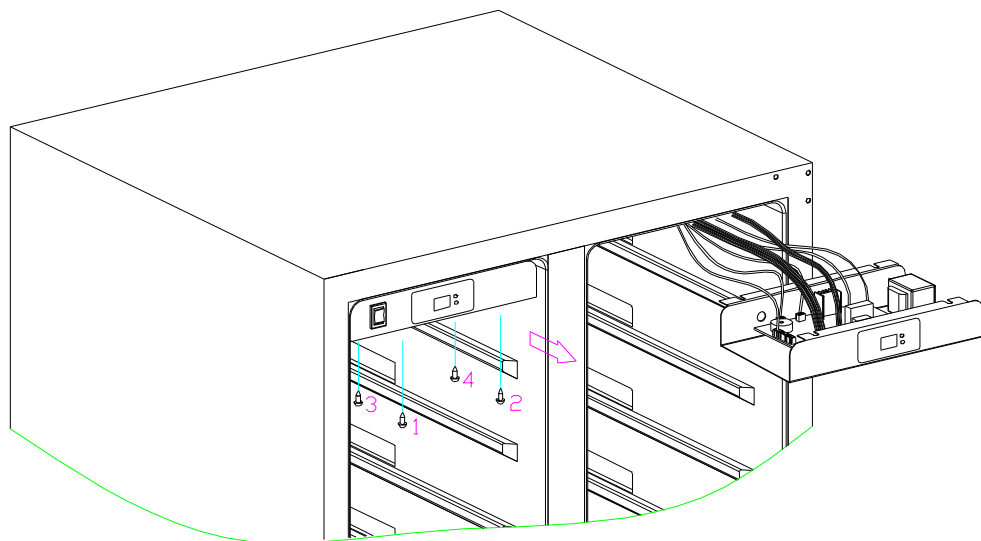
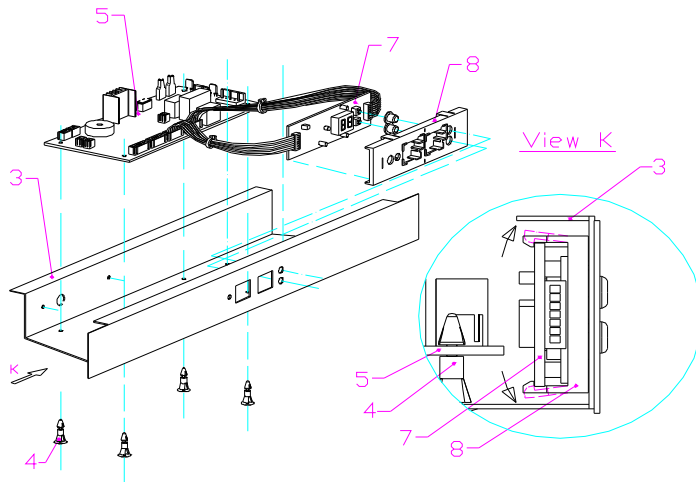
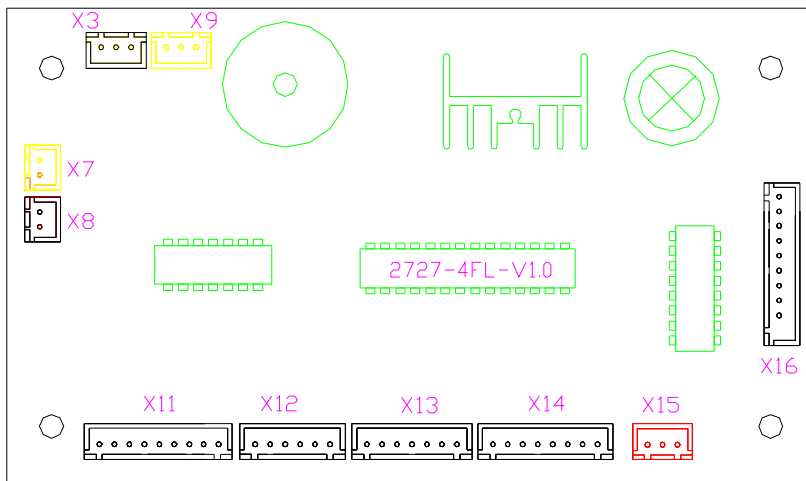

Fig. 10
Fig. 11
Fig. 12
3 >. If the above a~e point is line in the situation, and every components of the machine is normal; if there is any different, and firstly check the abnormal components and their connection wire. If the connection is tight, replace the components. If the replacement fail, it can be judged as control PCB's fault, please replace it with the same module. (Fig.10 & Fig.11)
1 >. After turning on the power, if the LED display shows the temperature is similar with the ambient temperature, it is normal, if abnormal, please remove the electrical box, (Fig.10 & Fig.11) (→9), check the sensor insert "X7" or "X8" whether reliable. If the insert is reliable, it is the sensor's fault, replace the sensor with the same module.
This fault caused by led displayer broken, just change it will be OK. (Fig.10 & Fig.11)
2 >. Screw the two bolts out from the electrical box (3, 4), half loose the two bolts(1, 2) which in the front of the box, pull the electrical box out (Fig.10)
3 >. The explode drawing of replaced electrical box is below; (Fig.11)
- 4 >. Unplug all the connectors, then press the head of each of the four plastic studs (4) one by one, and move up-ward the control board, remove the control board, and replace it with the new module. See. (Fig. 11)
- 5 >. Replace the LED display board. Unplug the four 4 display cover fasteners on display board supporter (8) as per arrowhead direction, and then remove the display board, and its two connectors from both sides, Replace the display board. See (Fig. 11 & Fig. 12)
○ The name and explanation of the main PCB board connectors(Fig. 12)
- 1>. Follow the removing methods to remove the PCB board; (Fig.10 & Fig.11)